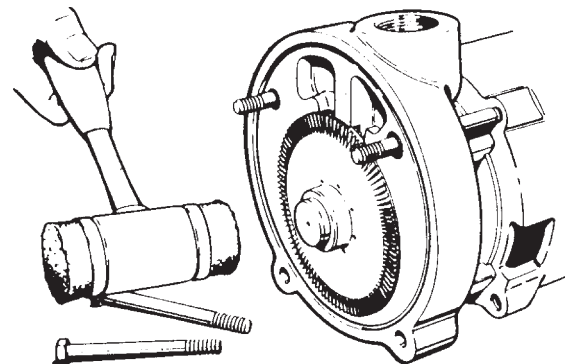

FIGURE 5
2. Remove the two (2) nuts (#20), and the two (2) $\frac{3}{8}$ " x 4" bolts (#19) from the cover (#2).
4. Remove the impeller (#11), refer to Figure 5. The impeller is a slip fit and, under normal conditions, can be removed by gently tapping on the end of the shaft sleeve with a mallet. Leave the impeller key (#23) in place. Striking the sleeve too hard could damage the seat or rotating element.